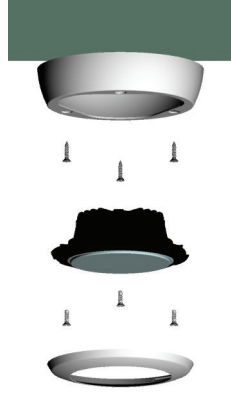

Figure 4
1. Position mounting base in desired location and secure using (3) #4 flat head screws.
3. Once all electrical connections are made, place the LED subassembly housing into the mounting base, line up the holes, and secure with (3) machine screws (included). (see Figure 4).